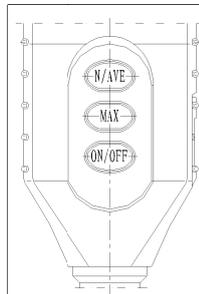

Figure 7
Screen is used to display results as well as working states of tester. The screen is divided into 5 displaying areas which is stated as follow, see figure 7
7.4 After completed measurement by using operating stand, see figure 7, close the joint cover of hardness tester so as to avoid dust entering into.